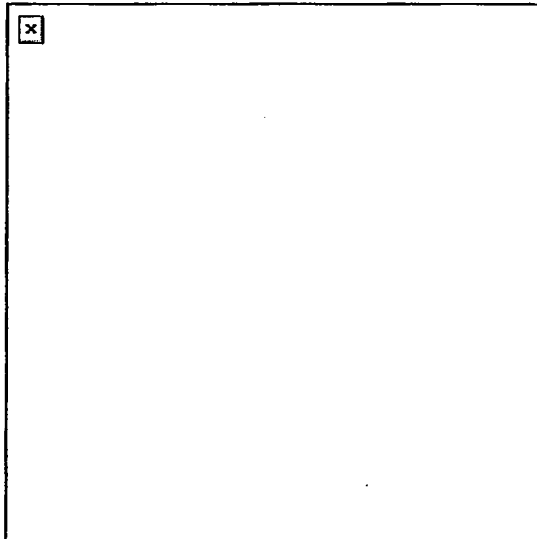

Figure 8. Kneeling position.
- c. Kneeling (Figure 8). To assume this position--
- (1) Use available cover, such as a low wall, rocks, or a vehicle that you can fire over, for support.
- (2) Place your firing knee on the ground. Put your left knee down to fire left-handed, or your right knee down to fire right-handed.
- (3) Bend your other knee. Place the foot on your nonfiring side flat on the ground, pointing toward the target. Extend your arms over available cover and use it for support.
- (4) Lock the wrist and elbow of your firing arm.
- (5) Wrap your nonfiring hand around your firing fist or wrist to support your firing arm.